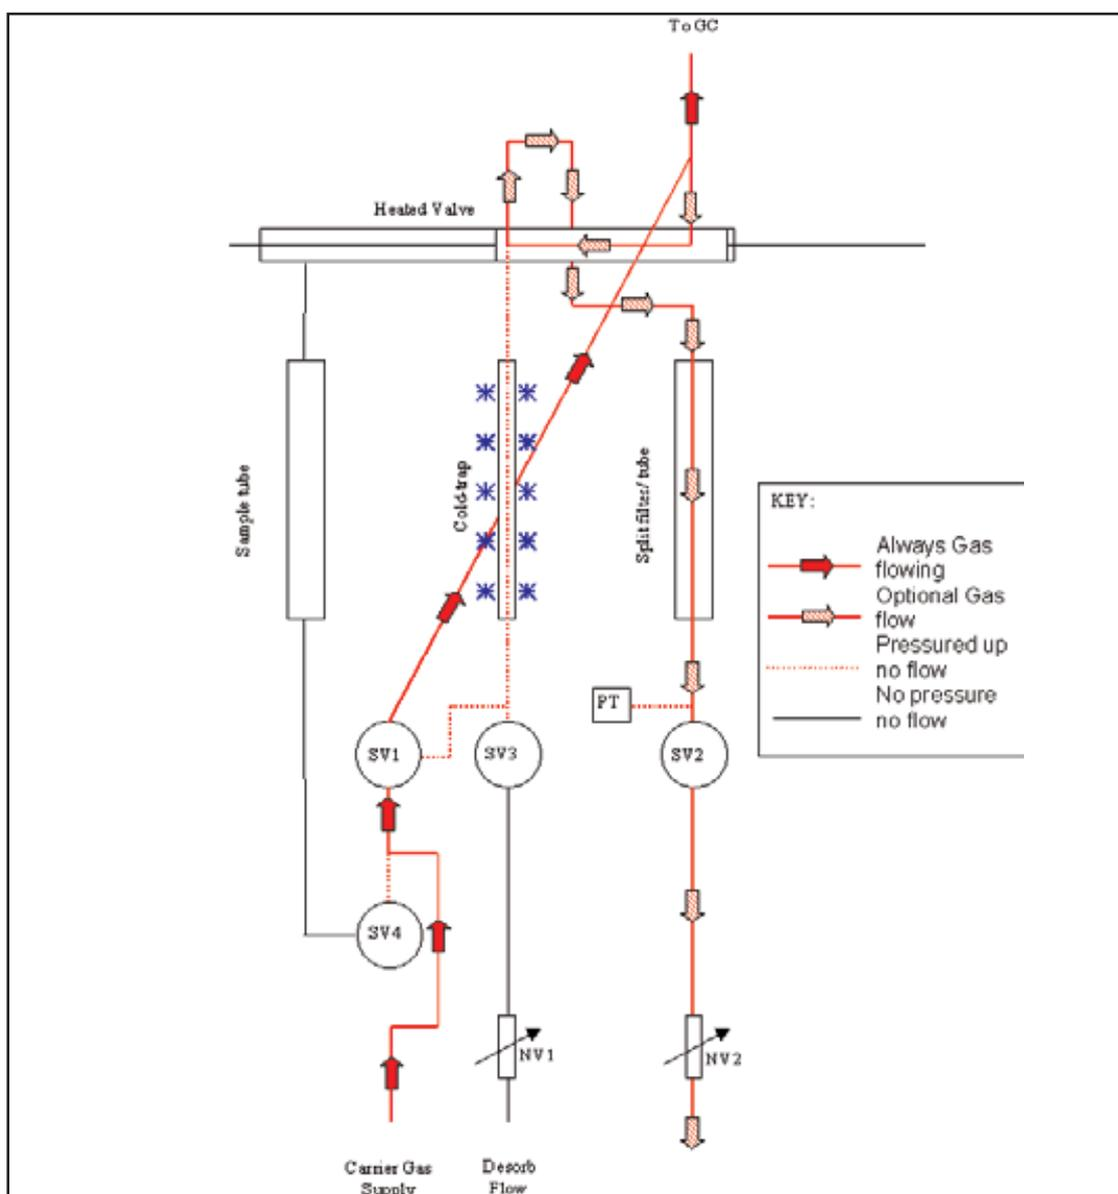

Figure 2. Detailed Schematic of UNITY flowpath in Standby Mode (split off)
A detailed schematic of the UNITY flow path in Standby Mode is shown in Figure 2. Key components include the heated valve (material: PTFE), cold trap (material: quartz), transfer line (material: uncoated, deactivated fused silica) and connecting tubing (Silcosteel.)
The first four stages of operation in tube conditioning mode; - standby, pressurise, leak test and ambient purge are identical to those described above for 2(3) stage desorption (Figures 2 to 6.)